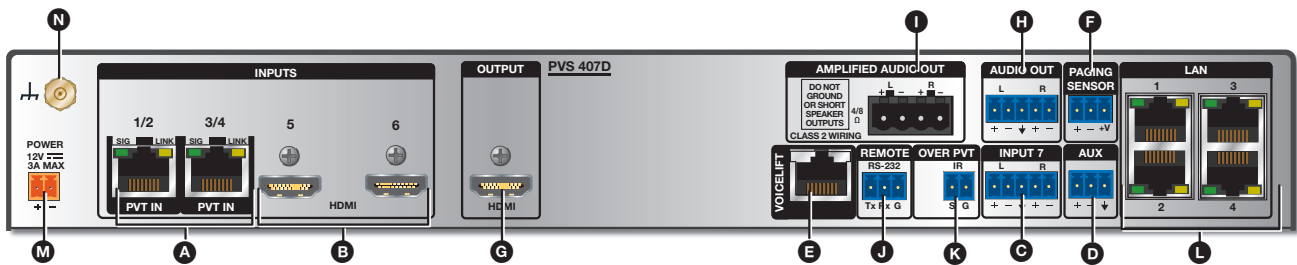
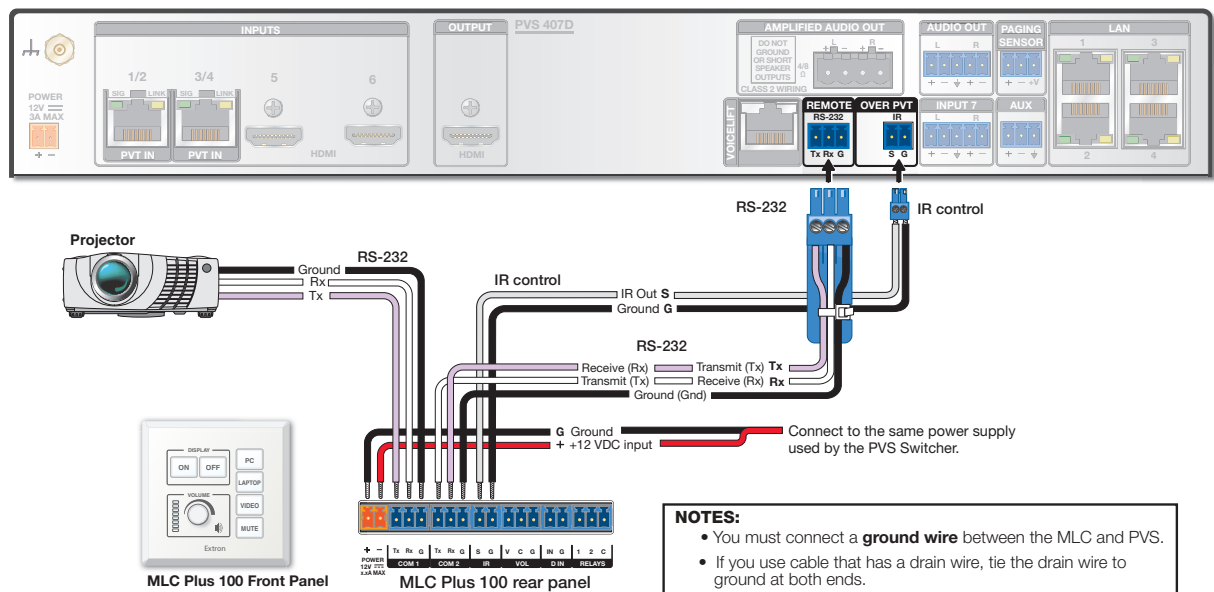

Figure 3. PVS 407D Rear Panel Features
Figure 4. MLC Plus 100 RS-232 and IR Connections to the PVS 407D
- B Inputs 5 and 6** (see **figure 3** on the previous page) — Connect up to two HDMI sources (such as an Extron ShareLink device) to these female HDMI digital video connectors. Use the Extron LockIt device to secure the HDMI cable at the switcher (see **Securing the HDMI Cable** on page 9 for securing the cable).
- J Remote RS-232 control port** (see figure 3 on page 5) — Connect a host computer, control system, or MLC controller to this 3.5 mm captive screw 3-pole connector for direct switcher control via RS-232 (see figure 4).
- K Over PVT (IR insert port)** — For IR control for a source device, connect the IR port on the MLC to this 3.5 mm captive screw 2-pole connector (see figure 4). This routes IR transport control signals via an IR device connected to the PVT wallplate front panel.